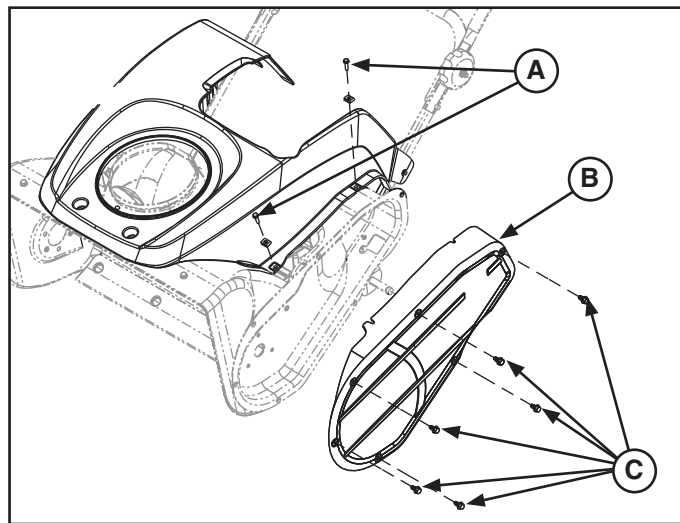
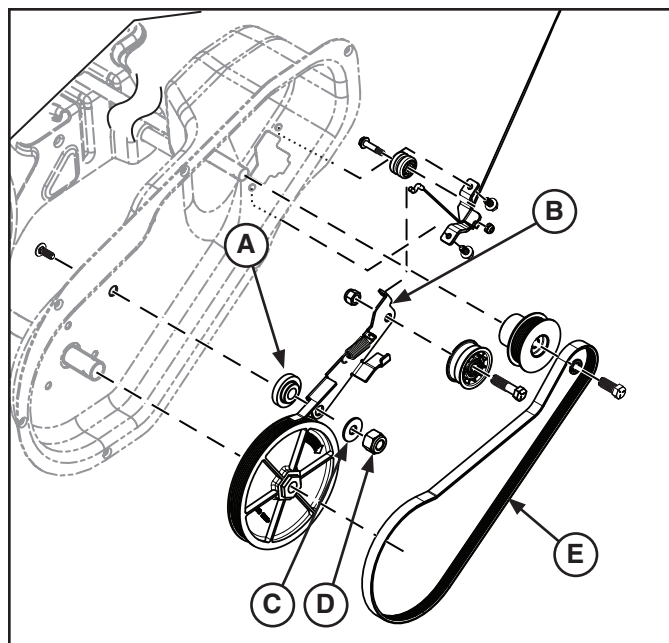

Figure 2. Remove Cover
Figure 4. Replace Belt, Spacer, and Nut
1. Remove the screws securing the top and side (A&C, Figure 2) of the cover (B).
2. Remove the cover (B).
6. Remove and discard the original nylock locknut (D, Figure 4) and spacer (A). Retain the washer (C) and idler arm (B).
7. Install the new spacer (A), original idler arm (B), original washer (C), and secure with a new locknut (D). Torque the locknut to 6-8 ft. lbs (72-104 in. lbs).
9. Remove and replace the drive belt (E) with the one provided with this kit.
10. Reinstall the cover (see Figure 2).